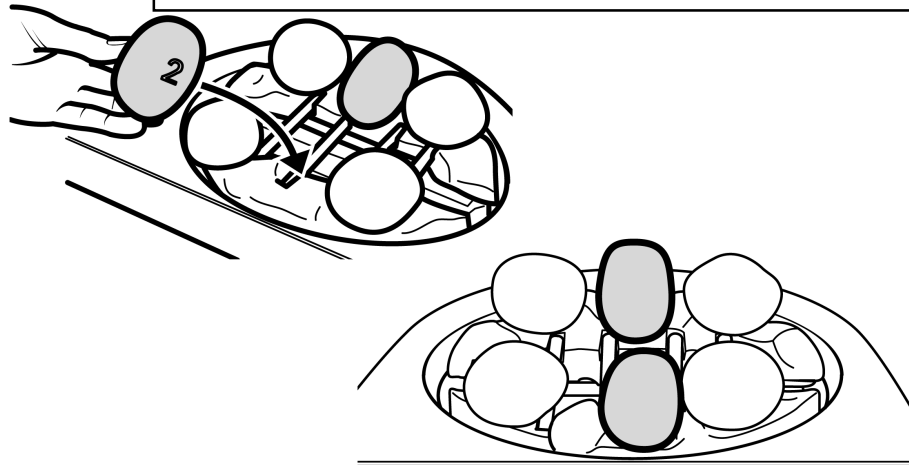

Figure 31 Pebble number '2' Location
5. There are two pebbles numbered '2' on the underside. Locate these on the pebble base between the ends of the inner left and right ceramic support rods (See figure 31).
between the ends of the inner left and right ceramic support rods (See figure 31).